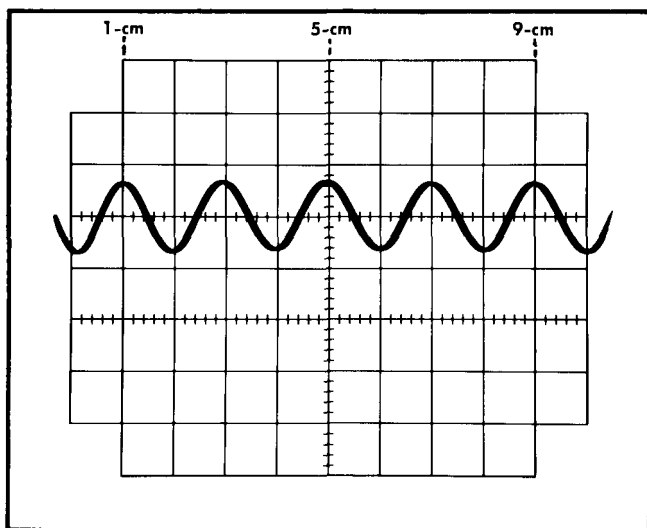

Fig. 5-8. Typical display, correct high speed sweep timing and linearity.
m. Check—One cycle/2 cm, Upper Beam display; 1-cm, 5-cm and 9-cm sine-wave peaks should coincide with their respective graticule vertical lines (see Fig. 5-8). Tolerance is  $\pm 5\%$  or  $\pm 4$  mm.